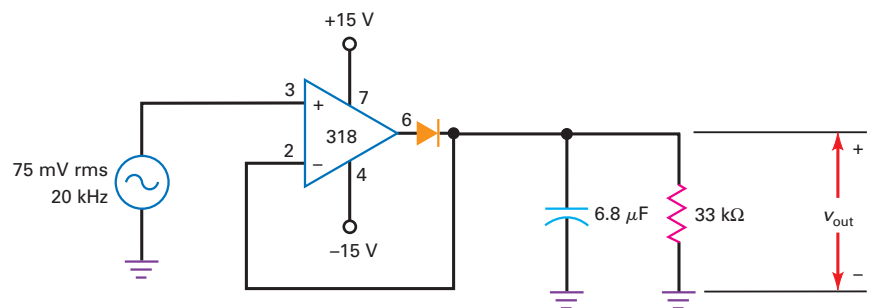

Figure 36-46
36.17 What is the output voltage in Fig. 36-46?
36.18 Suppose the diode of Fig. 36-46 is reversed. What is the output voltage?
36.19 The input voltage of Fig. 36-46 is changed from 75 mV rms to 150 mV p-p. What is the output voltage?